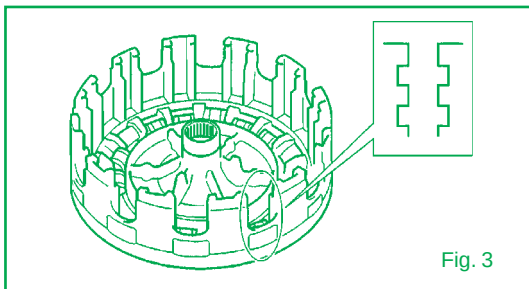

Fig. 3
1. Make sure that the clutch housing teeth do not feature any damage. If they are as shown in figure 3 the correct clutch operation will be jeopardised.